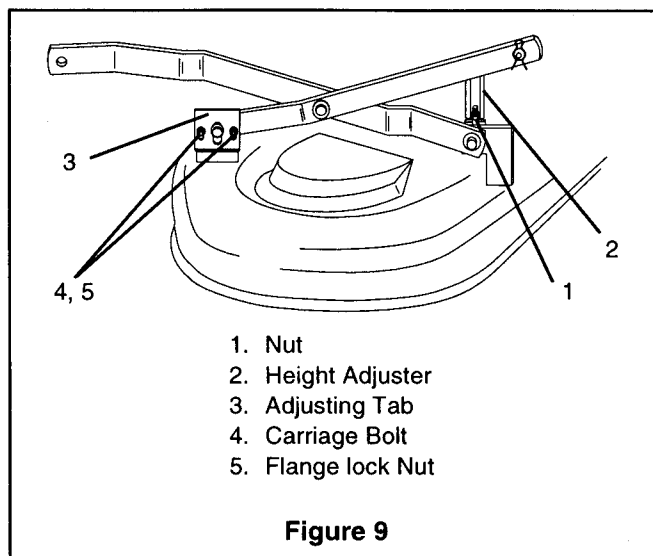

Figure 9
2. Position blade(s) side to side, measure distance of blade tips to floor at right and left side of mower pan (Figure 9 and 10). Rotate blade(s) 180 degrees and check again. The measurement should be equal within 1/8 of an inch side to side.
3. To correct for difference in height of blade tips from side to side, loosen nut on height adjuster (Figure 9). Turn height adjuster nut clockwise on low side of mower pan to raise low side one half the difference in height. Turn height adjuster nut counterclockwise on high side to lower high side the other one half of the height difference.
1. Proper blade pitch is when the blade tip, measured from the bottom surface (Figure 11), is 1/8" to 1/4" lower at front of mower pan than when same tip is at rear of mower pan. To adjust pitch loosen flange lock nuts and slide adjusting tabs up or down to achieve proper pitch (Figure 9).